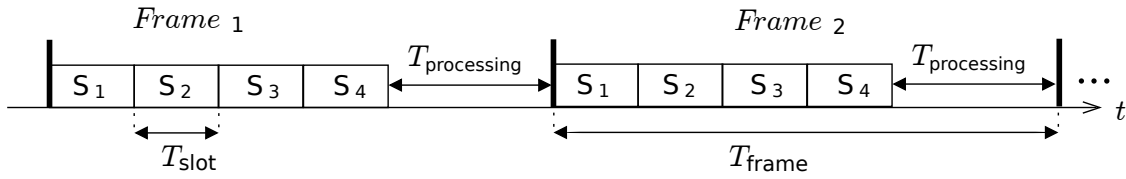

Figure 6: TDMA schedule including host processing time.
- (b) (6 points) Consider the TDMA schedule shown in Figure 6, which includes additional time $T_{\text{processing}}$ for the host to process the received messages. During $T_{\text{processing}}$, the host must compute for 10^5 cycles. The host processor can execute at a clock frequency F from the discrete set $\{5, 10, 20\}$ MHz. Assume that frequency is proportional to voltage ($F \sim V_{\text{dd}}$) and the power P satisfies $P \sim V_{\text{dd}}^2 * F$.